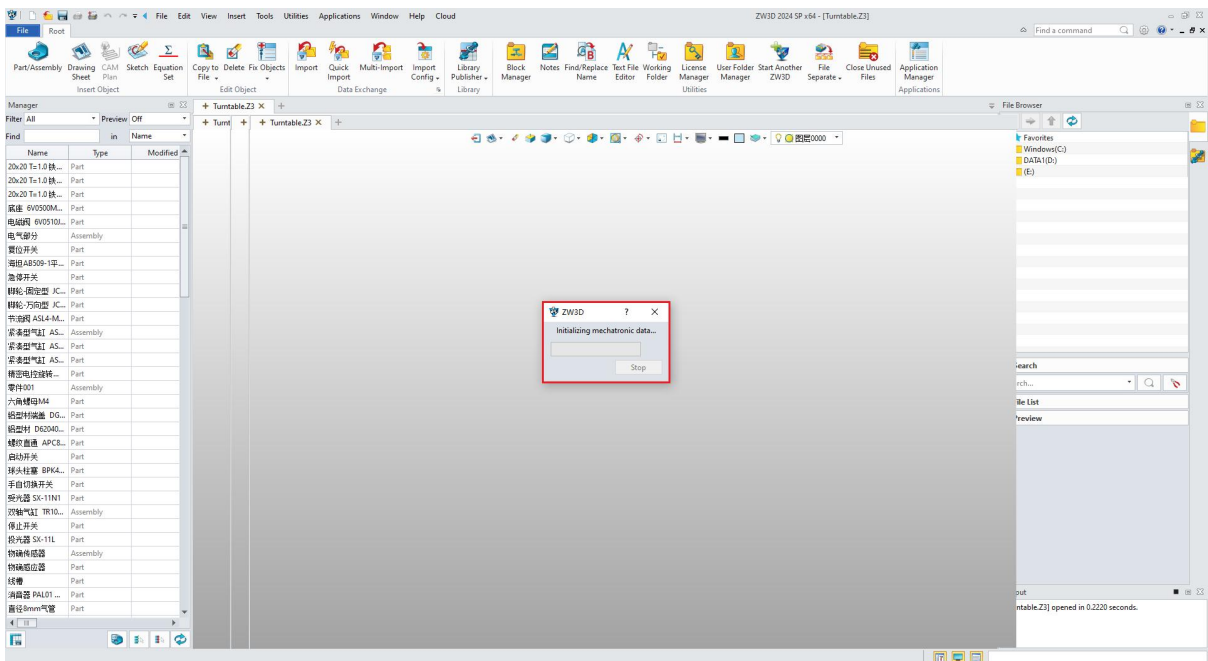

Figure 13-3: Waiting
- Wait for the model import to complete.(Figure 13-3)